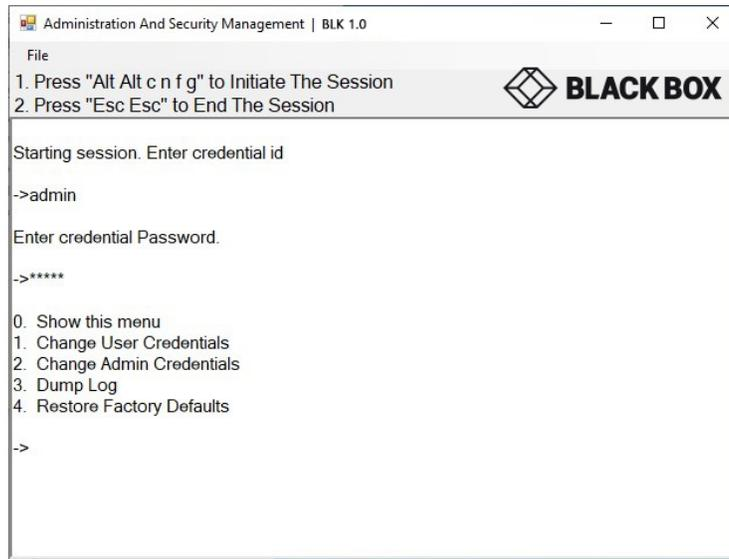

Figure 3: Administrator Log-in
- Figure 3 below is a screenshot of the tool you should be seeing on your screen.